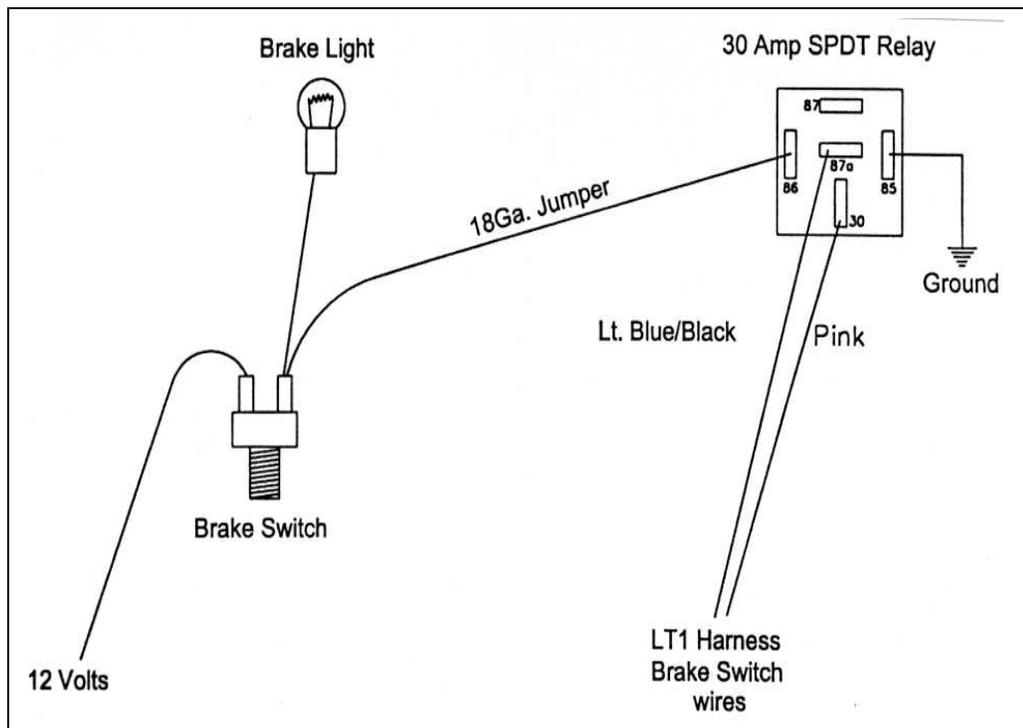

Figure 6.4 SPDT Relay
- H. If the vehicle you are installing this harness into has a hydraulic brake switch you will need to connect the Pnk, Lt.Blu/Blk, jumper and ground wires using a relay as shown in **Figure 6.4**.